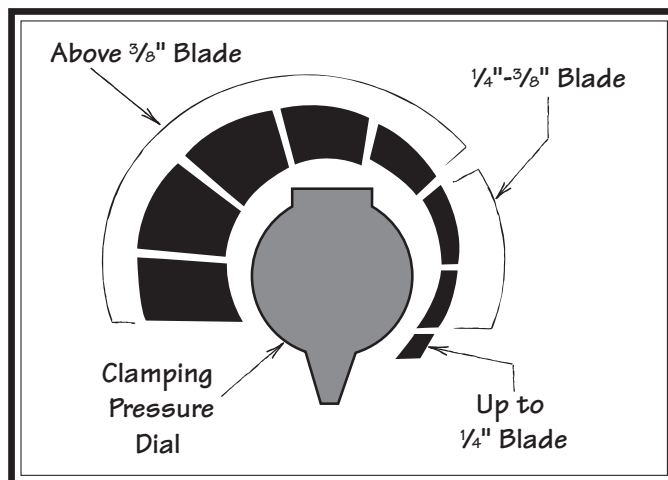

Figure 32. Blade clamping settings.
7. Use the illustration in **Figure 32** and set the correct clamping pressure setting for width of the blade.